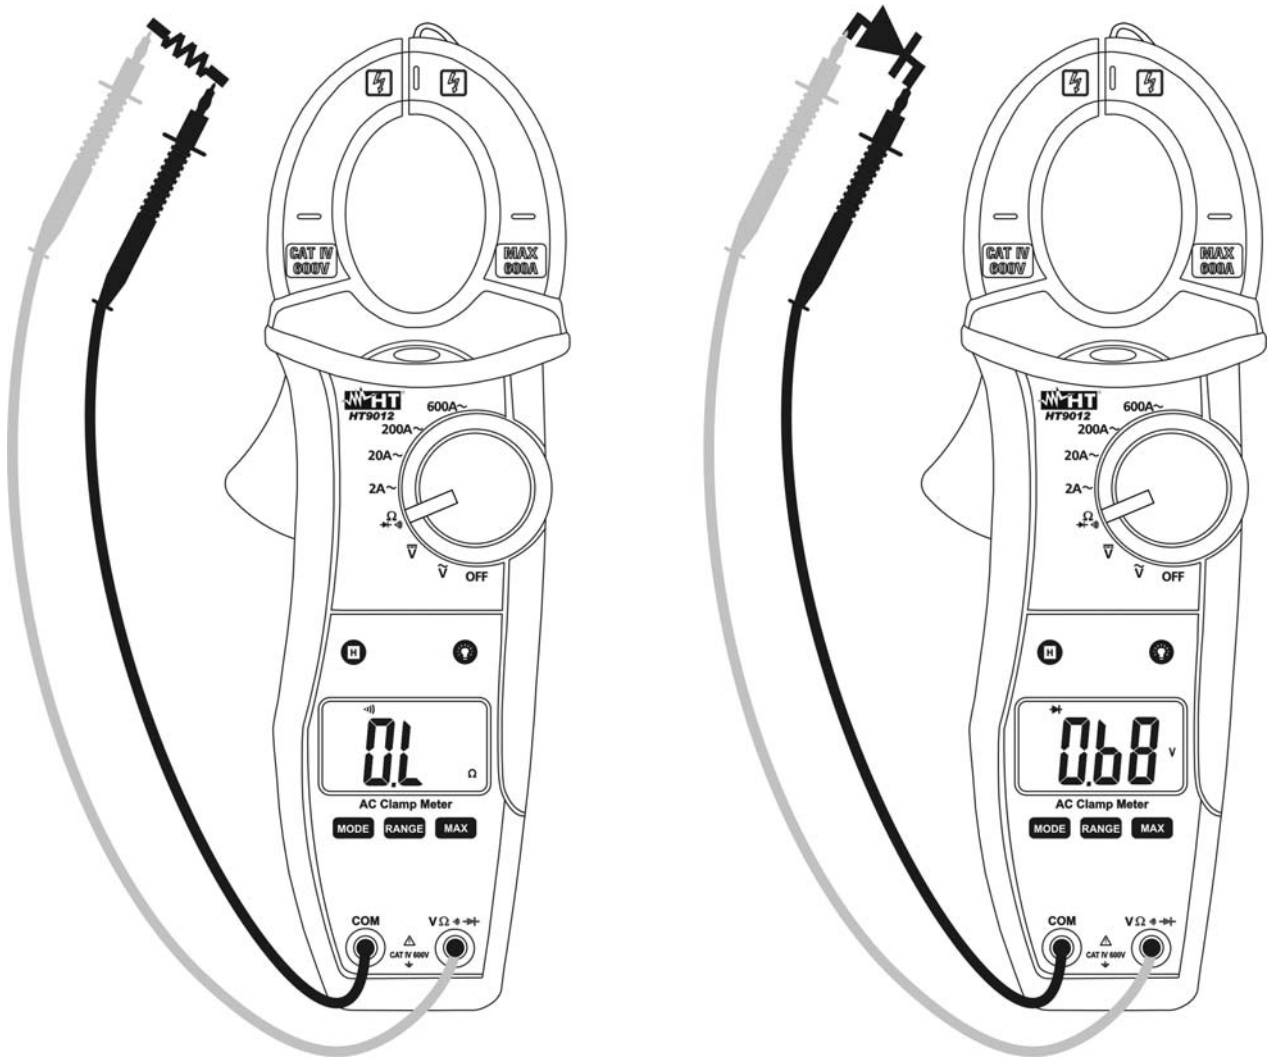

Fig. 7: Taking continuity test and diode test
3. Insert the red test lead plug into  $V\Omega \rightarrow \rightarrow \rightarrow$  jack and the black test lead plug into **COM** jack and perform continuity test on the object on test (see Fig. 7 – left side). Buzzer emits sound if the measured resistance value is less about  $100\Omega$
5. Connect the red test leads to the anode of diode on test and the black test lead on the cathode ones (see Fig. 7 – right side)